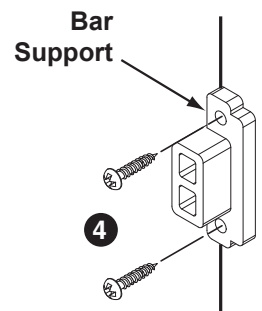

Figure 10
- Install the **housing** over the **platform** and **security bar** assembly, making sure to align the corners so the six predrilled holes lineup with the holes in the housing. Using the six round head screws ③, attach the **housing** to the door and the **platform** assembly.
- Position the **bar support cushion** at the edge of the door in the open area of the lock assembly against the tips of the **housing** assembly (Figure 10). If there is any up and down movement, move the **bar support cushion** down. The small front edge of the **bar support cushion** should be even with the edge of a wood door or the wood core of a steel skinned door. Using the 9/64" drill bit, mark the position of the two holes in the **bar support cushion** on the door. DO NOT DRILL HOLES. Remove the **bar support cushion** and using the 3/32" drill bit, pre drill the two holes. Using screws ④ found in the small screw package, mount the **bar support cushion** to the edge of the door. Using the **twist knob** and the key, check the lock for smooth operation and make sure the **security bar** clears the **bar support cushion**. If there is a problem, see the troubleshooting instructions on the web site, www.theultimateclock.com. If the lock works smoothly you are ready to install the **decorative cover**.
- Insert the point of a No. 1 screwdriver into the two mounting holes for the two **decorative cover** case screws ②. Make sure the holes are clear of debris from die cast flash.
- Install **decorative cover** and secure with two case screws ② using No. 1 Phillips screwdriver. Alternately tighten each screw until both are tight. **DO NOT OVERTIGHTEN!**
- With **security bar** retracted, position **twist knob** in place (oriented vertically), and secure with screw ①.